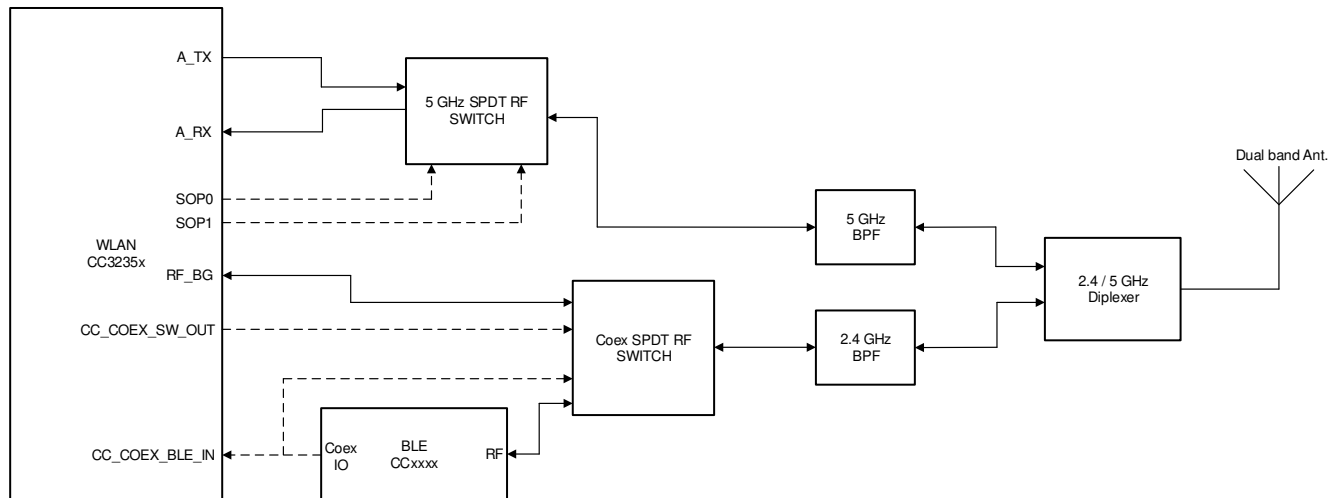

图 10-2. Single Antenna Coexistence Solution with 5 GHz Wi-Fi
- 5 GHz Wi-Fi band (see 图 10-2)
图 10-2 shows the single antenna implementation of a complete Bluetooth® low energy and WLAN coexistence network with the WLAN operating on either a 2.4- or a 5 GHz band. The SOP lines control the 5 GHz switch. The Coex switch is controlled by a GPIO signal from the BLE device and a GPIO signal from the CC3235x device.